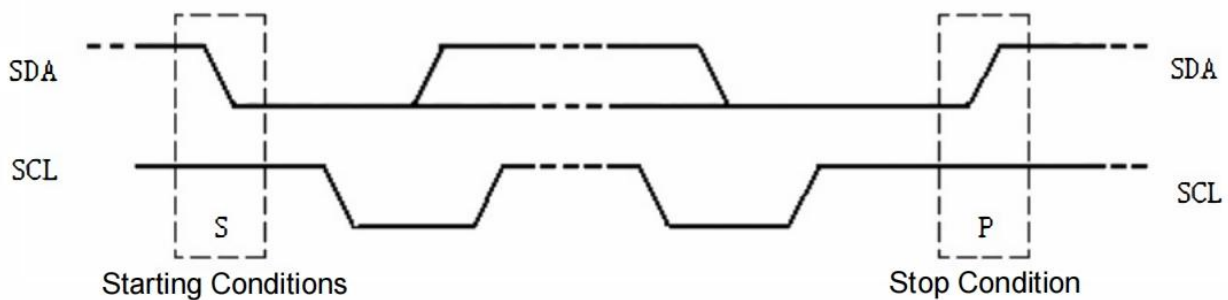

Fig.11 I²C Bus Start (Start) And Stop (Stop) Condition Definition
When the bus is idle, both the data line and the clock line maintain a high level. The start condition (S) occurs when the data line transitions from high to low during a high clock pulse. The stop condition (P) occurs when the data line transitions from low to high during a high clock pulse, as shown in Figure 11.